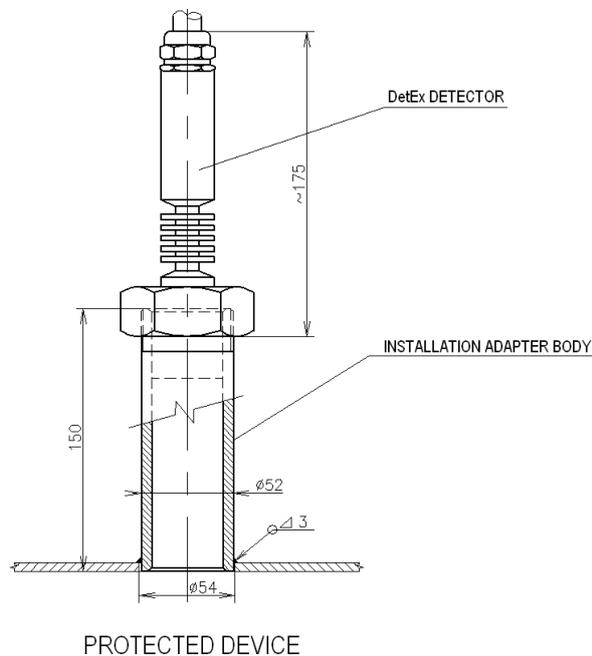

Fig. 2b)
- b) a horizontal wall perpendicularly according to Figure 2b)